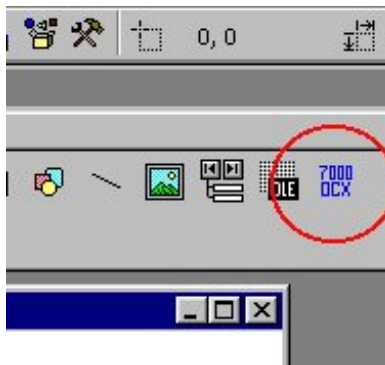

Figure 4-1-4. The “7000 OCX” icon.
- Click on the “7000OCX” and "CommandButton" from on “Form1”. Refer to Figure 4-1-4 to 4-1-5.